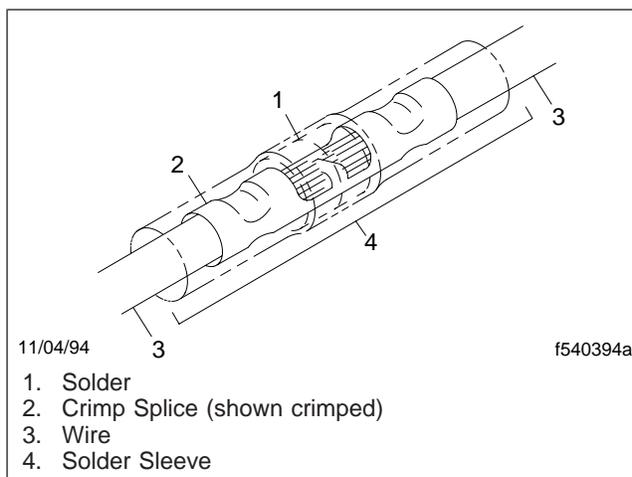

Fig. 3, Wire Ready for Soldering
6. Slide the solder sleeve over the crimp splice so the solder ring is over the center of the crimp splice. See Fig. 3. Then apply 250°F (121°C) heat until the solder flows into the splice crimp, and the plastic sleeve has shrunk completely against the wire.